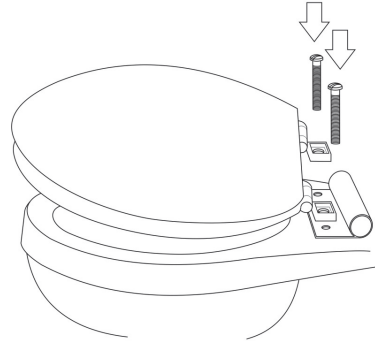

Figure 3
4. Place frame bracket on toilet with tube on bracket closest to tank. Position toilet seat and cover over the frame bracket and secure in place using the screws mentioned in step 3. (Figure 3)